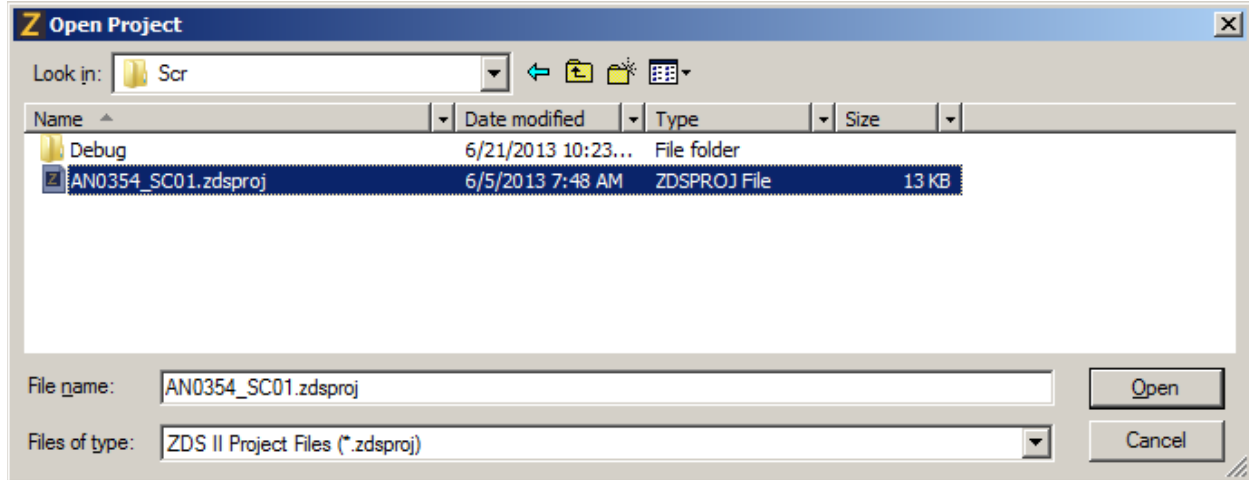

Figure 2. Example: Selecting a Project File in ZDSII
6. Launch the ZDSII – ZNEO v5.0.1 application and select your choice of motor driver firmware by navigating via the **File** menu in ZDSII to select **Open Project**. Next, navigate to the directory into which you copied the source code files you downloaded from the Zilog website, and double-click the appropriate `.zdsproj` project file to open it. See the example in Figure 2.